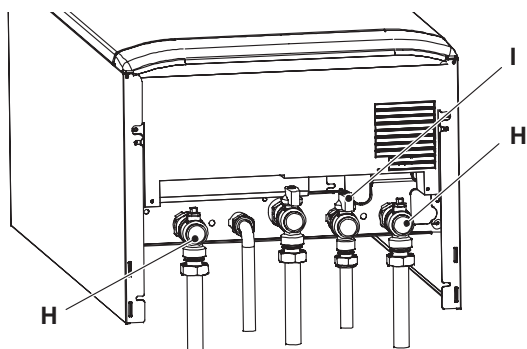

Figure 2.7 - Bottom view of the boiler
- Close the c.h. circuit flow and return cocks H. (Figure 2.7).
- Close the d.c.w. inlet cock I (Figure 2.7).